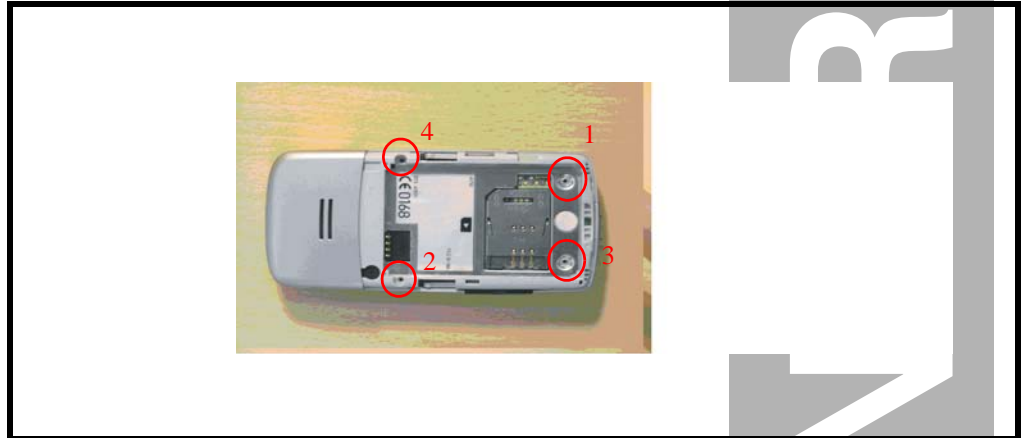

Figure 8. Removing 4 Screws
2. Sequentially remove 1-2-3-4 screws with a 6-corner-star T5 screwdriver as shown in Figure 8.